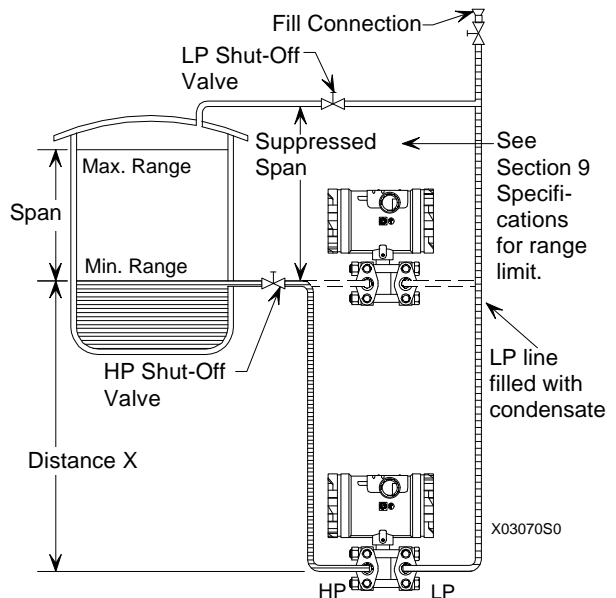

FIGURE D-2 Suppressed Span Example
- Suppressed Span - The LRV of the transmitter needs to be configured below "0." See Figure D-2.